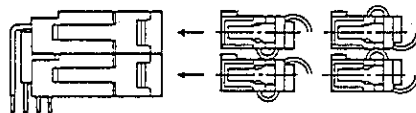

Figure 3.8-3
- *Direction of socket for mating -- When mating the flat cable connectors (with strain relief), in order to minimize interference, make the turned back portions of the cable as small as possible and direct the turned back portions in the same direction as shown in Figure 3.8-3.*